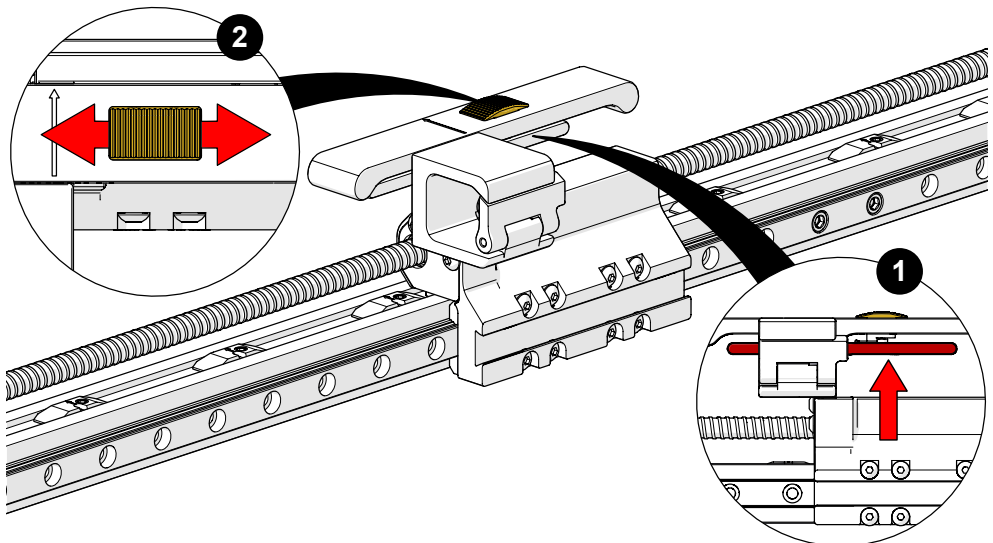

Fig. 39 - Carrier indexing latch
1. Lift the indexing plunger and move the carrier slightly to release the carrier from the locked position. Lower the indexing plunger and slide the carrier to the next index location where the carrier will lock in position (Fig. 39).